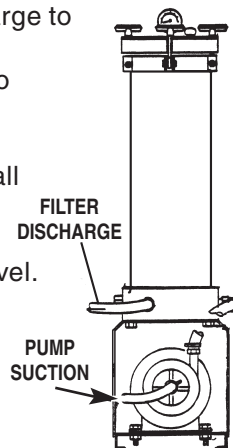

FIGURE 1
2. Secure filter chamber to base/hood assembly if not already done. Use fasteners provided. See Figure 1.